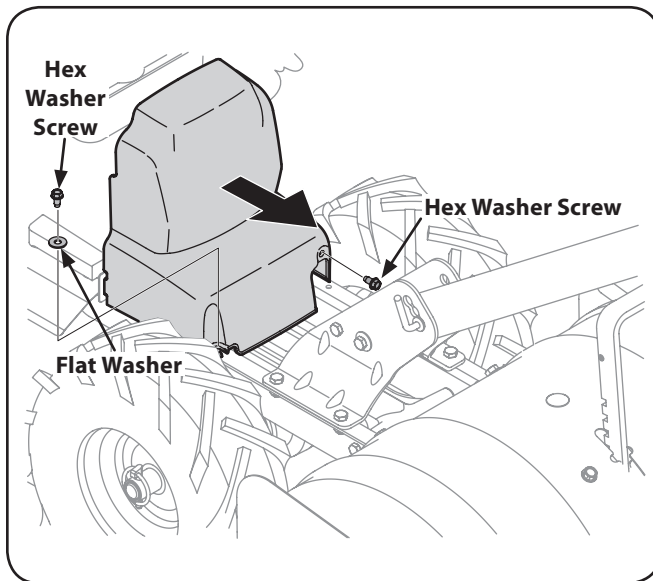

Figure 7-1
2. Remove the belt cover as seen in Fig. 7-1, by first removing the two ¼-20 hex washer screws and one flat washer. Lift the belt cover up and away from the tiller and set in a safe location until reinstallation.